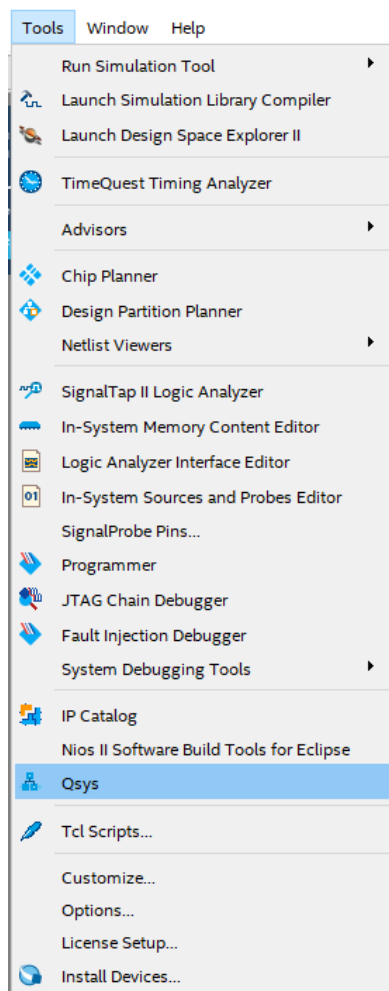

Figure 26 : QSYS Menu
1. Open Quartus Prime. Click at Tools -> QSYS as shown in the Figure 26.